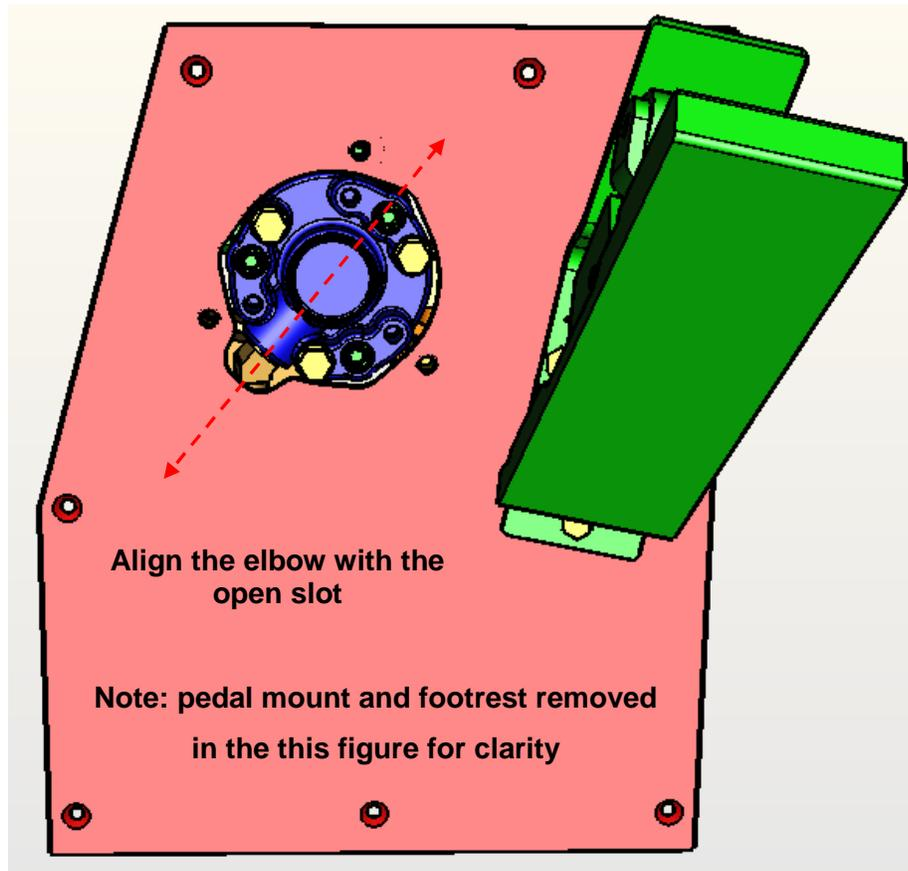

Figure 14: Align the BVA Valve with the New Plate
31. Align the BVA valve and the 45 degree elbow with the open slot in new plate as shown in Figure 14.